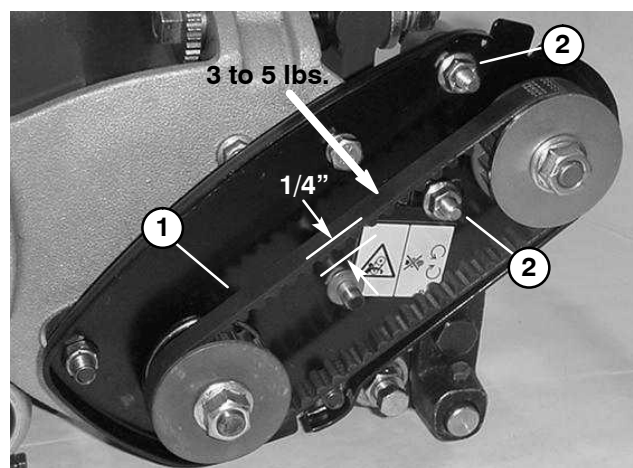

Figure 9
B. Check belt tension by depressing belt at mid span between the pulleys with 3 to 5 lbs (13 to 22 N) of force (Fig. 9). The belt should deflect 1/4 inch (6 mm).
A. Loosen the two bearing housing mounting nuts (Fig. 9).